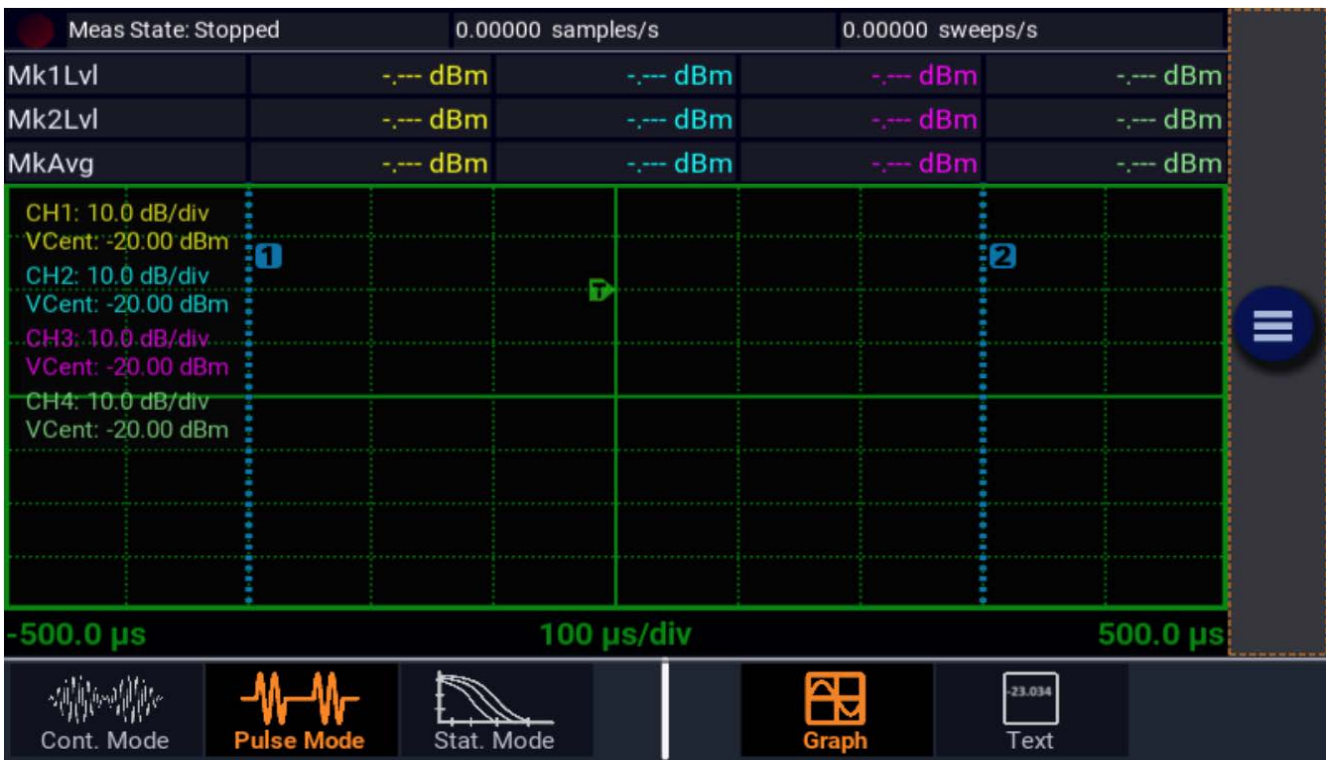

Figure 2.1 Power-On Display
5. A bootup screen should appear that shows the boot status. After a self-check, the instrument will execute the application program. There will be some temporary dialogs indicating application initialization and channel updating. After several moments, a screen similar to figure 2.1 should be displayed.